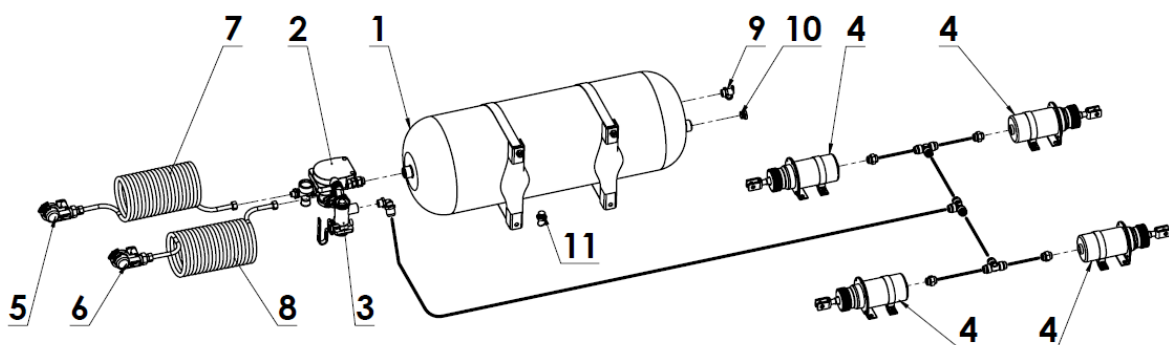

Figure 6 1-line pneumatic braking system - N267, N267/1 Spreaders:
- 1-line pneumatic braking system: N267, N267/1 (Figure 6),